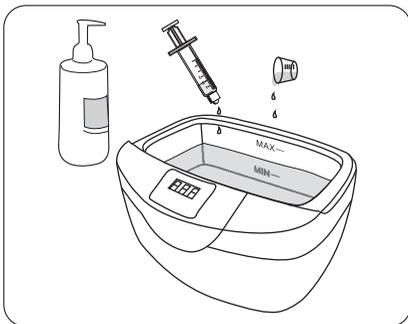

Fig. 11
- 4▶ Add the right amount of enzymatic detergent in the vat or beaker, diluting it according to the recommendations specified by its manufacturer. We suggest, for your convenience that you use a small medicine measuring cup or syringe without the needle to measure the volume of detergent, make sure to reserve this syringe for this purpose only in case the detergent doesn't have its own measurer (Fig. 11). Do not use anti-crust solutions/products, they have a highly acid concentration, that may damage the vat, its sealing and the instruments.